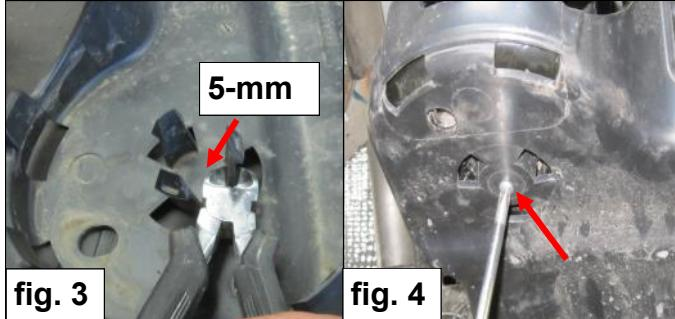

fig. 4
9. Mount the protective caps and secure it with the enclosed parkers. See fig. 4.